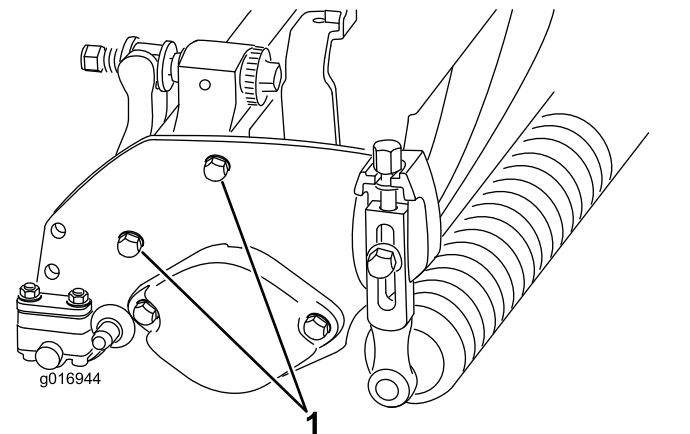

Figure 16
**Note:** The position of the rear roller to the reel is controlled by the machining tolerances of the assembled components and paralleling is not required. A limited amount of adjustment is possible by setting the cutting unit on a surface plate and loosening the sideplate mounting bolts (Figure 16). Adjust and tighten the bolts when finished.